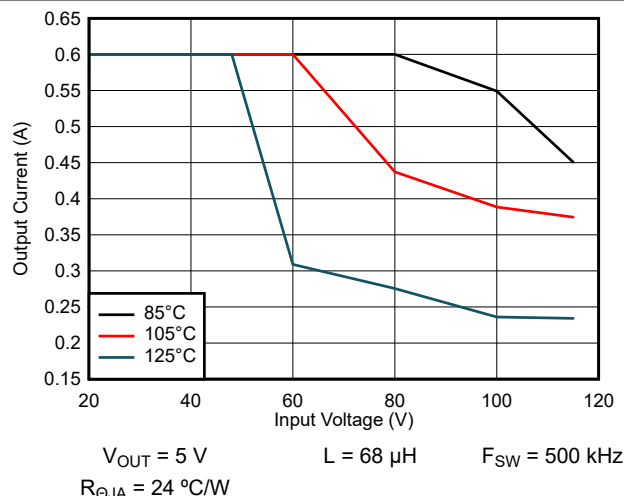

**Figure 9-33. Typical  $R_{\theta JA}$  Versus Copper Area**
The LM516x features a die attach paddle, or "thermal pad" (EP), to provide a place to solder down to the PCB heat-sinking copper. This provides a good heat conduction path from the regulator junction to the heat sink and must be properly soldered to the PCB heat sink copper. Typical examples of  $R_{\theta JA}$  can be found in Figure 9-33. The copper area given in the graph is for each layer. The top and bottom layers are 2-oz copper each, while the inner layers are 1 oz.
Remember that the data given in Figure 9-33 through Figure 9-35 is for illustration purposes only, and the actual performance in any given application depends on all of the previously mentioned factors.